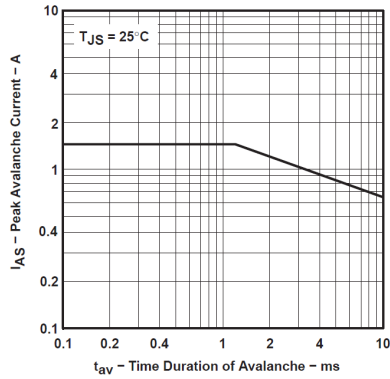

图 5-1. Peak Avalanche Current vs. Time Duration of Avalanche
- (1) Operation outside the Absolute Maximum Ratings may cause permanent device damage. Absolute Maximum Ratings do not imply functional operation of the device at these or any other conditions beyond those listed under *Recommended Operating Conditions*. If used outside the Recommended Operating Conditions but within the Absolute Maximum Ratings, the device may not be fully functional, and this may affect device reliability, functionality, performance, and shorten the device lifetime.
- (2) All voltage values are with respect to network ground terminal GND.
- (3) Pulse duration ≤ 100μs, duty cycle ≤ 2 %
- (4) DRAIN supply voltage = 15V, starting junction temperature (T_{JS}) = 25°C, L = 100mH, I_{AS} = 1A (see 图 5-1).
- (5) See Dissipation Table